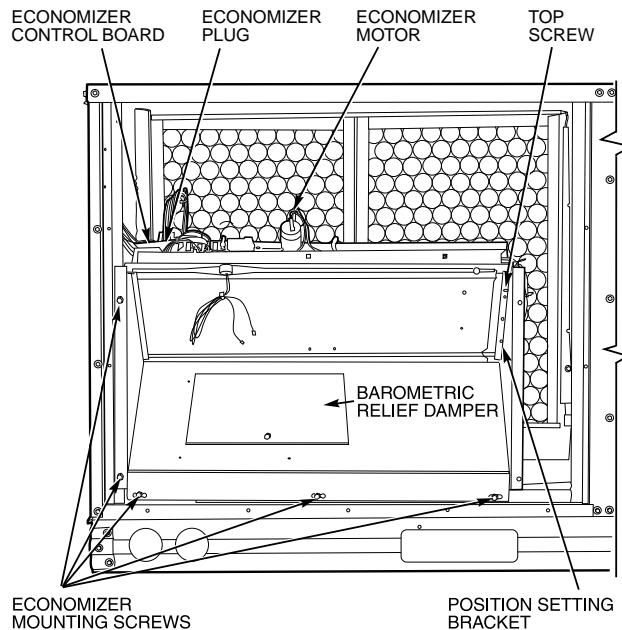

Fig. 21 — Durablade Economizer Installed in Unit
5. Slide economizer into unit and secure with screws. See Fig. 21.
7. Insert economizer plug into economizer harness. Remove tape from barometric relief damper. See Fig. 21.